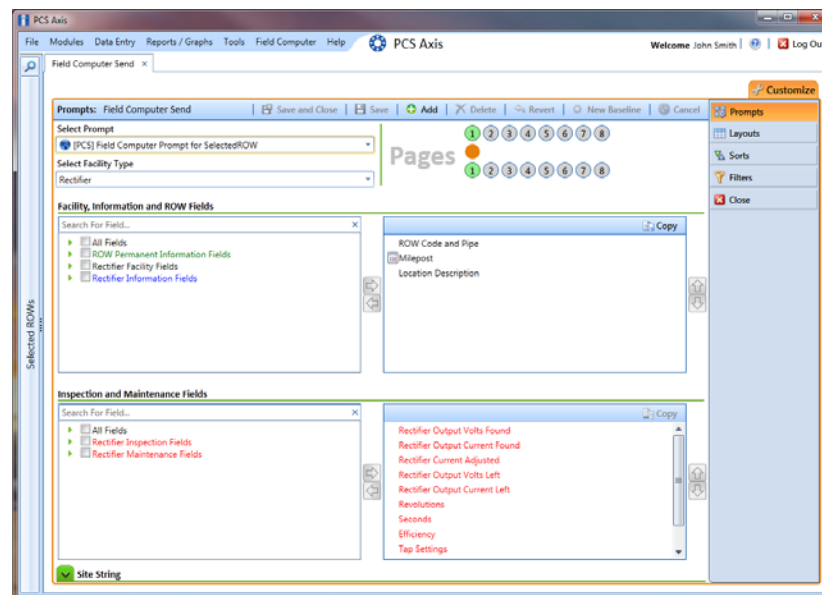

Figure 13-28. Prompts
- 3 Click the **Customize** tab , then the **Prompts** button  to open the *Prompts* page (Figure 13-28).
- 3 Click the **Customize** tab , then the **Prompts** button  to open the *Prompts* page (Figure 13-28, page 581).